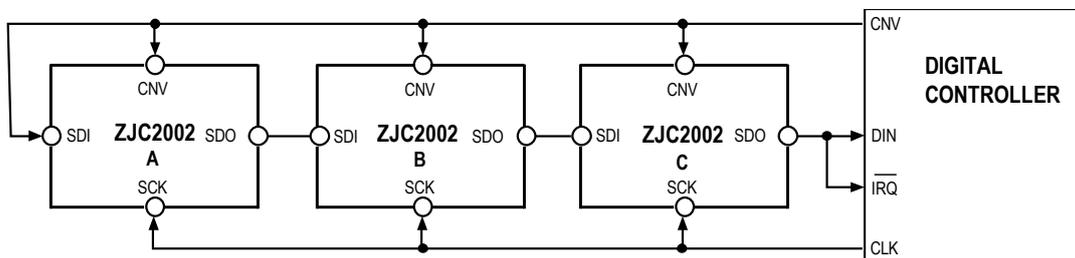
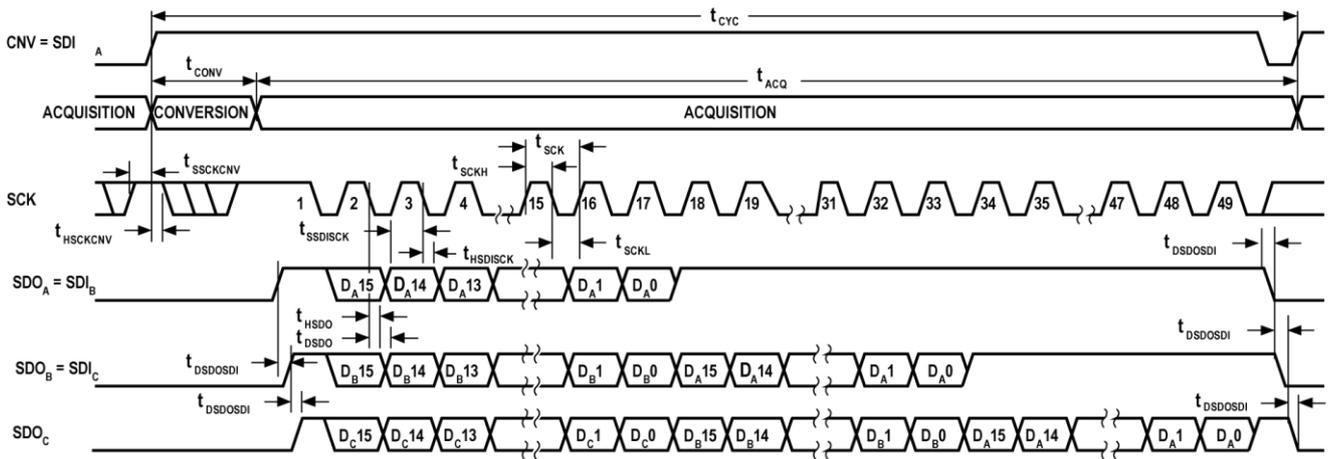

Figure 46. Chain Mode (with Busy Indication) Connection Diagram
Figure 47. Chain Mode (with Busy Indication) Serial Interface Timing
- In chain mode, SCK is high during the rising edge of CNV (see Figure 47).
An example using three ZJC2002s is shown in Figure 46, and the corresponding timing is shown in Figure 47.
When SDI and CNV are low, SDO goes low. With SCK high, a rising edge on CNV initiates a conversion, selects chain mode, and enables the busy indicator feature. In this mode, CNV remains high during the conversion phase and subsequent data readback. After all the ADCs in the chain have completed their conversions, drive the SDO pin of the ADC closest to the digital host (see Figure 46). This transition on SDO can be used as a busy indicator to trigger data readback. ZJC2002 then enters the acquisition phase and is on stand-by. The remaining data bits stored in the internal shift register are clocked out MSB first on subsequent SCK falling edges. For each ADC, SDI feeds the input of the internal shift register and is clocked out by SCK falling edge. Each ADC in the chain outputs data MSB first, and $16 \times N + 1$ clocks are required to read back N ADCs.